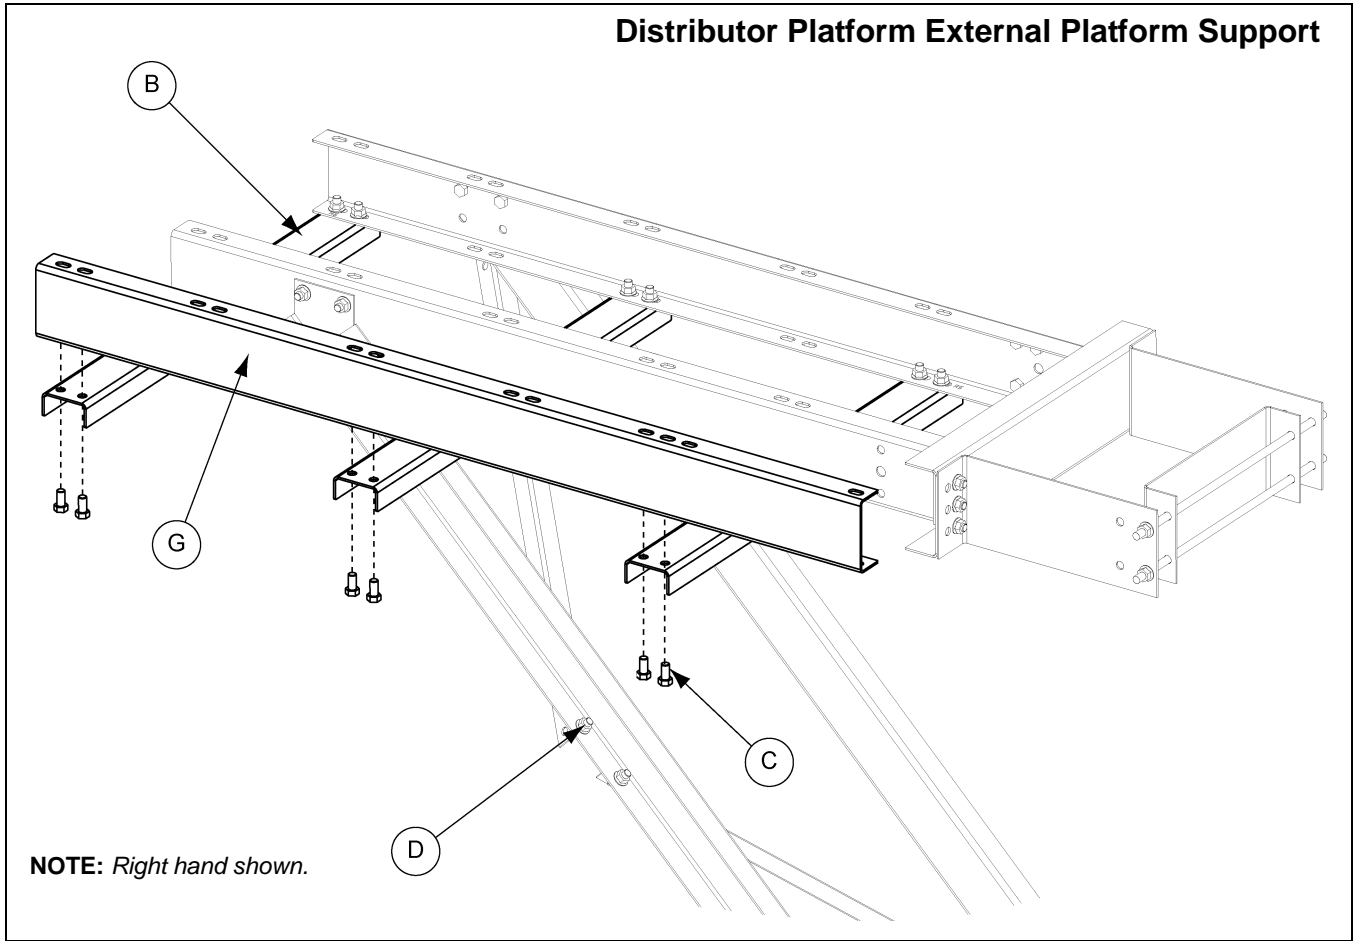

Figure 12C Distributor External Platform Support
3. Assemble the external platform support (DSP1648EPS) to the end of the three (3) cross supports using six (6) 1/2" x 1" bolts (S-7935) (C) and nuts (S-8506) (D). *(See Figure 12C on Page 100.)*